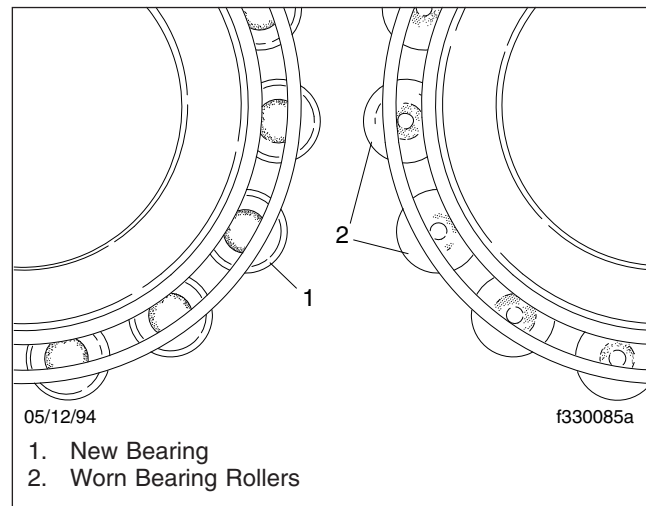

Fig. 5, Wheel Bearing Roller Wear
- Large ends of rollers worn flush to the recess, or radii at the large ends of the rollers worn sharp. These are indications of advanced wear. See Fig. 5.